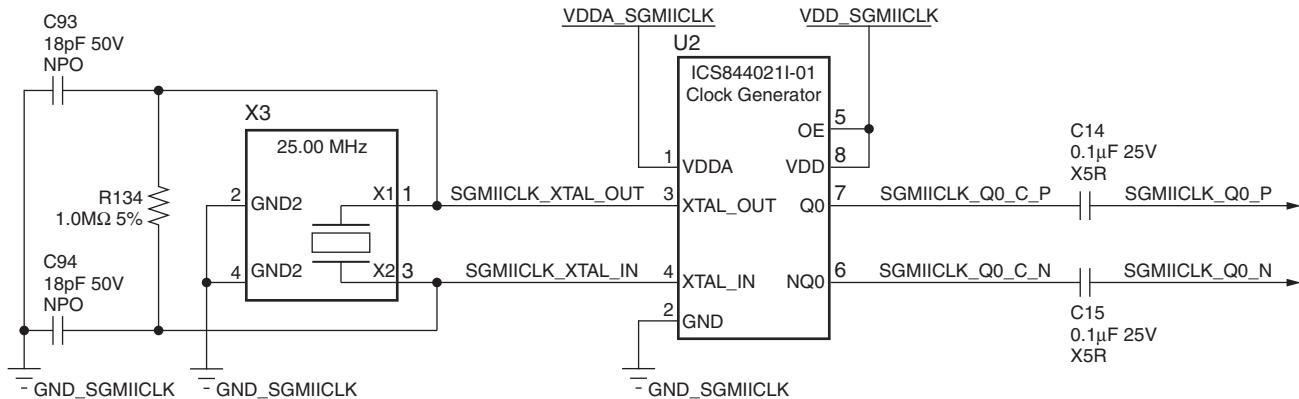

Figure 1-18: Ethernet 125 MHz SGMII GTX Clock
An Integrated Circuit Systems ICS844021I chip (U2) generates a high-quality, low-jitter, 125 MHz LVDS clock from a 25 MHz crystal (X3). This clock is sent to FPGA U1, bank 117 GTX transceiver (clock pins G8 (P) and G7 (N)) driving the SGMII interface. Series AC coupling capacitors are present to allow the clock input of the FPGA to set the common mode voltage. Figure 1-18 shows the Ethernet SGMII clock source.